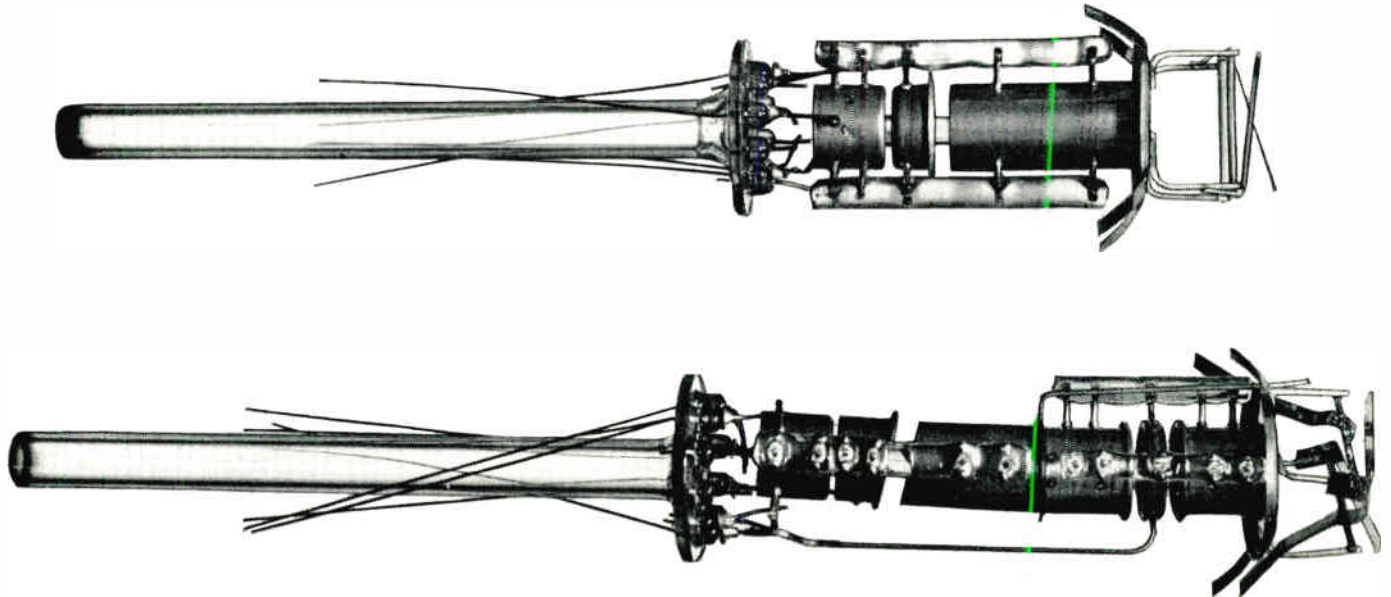

Fig. 1. Two types of electron guns used in TV picture tubes.
In the same way that the picture tube is the heart of the TV receiver, the heart of the picture tube is the gun structures shown in Figs. 1 and 2. These three types of guns are currently used in the manufacture of General Electric picture tubes. The straight gun type shown at the top of Fig. 1 is used in some of the smaller size aluminized picture tubes such as the 5TP4, 10FP4-A and 12KP4-A. A straight gun can be recognized by the straight adjacent edges of the number two grid cup and the HV anode cylinder. Tubes which use a straight gun do not require an ion-trap magnet.
The electron gun shown at the bottom of Fig. 1 is also a bent gun type but in addition, it has a focusing electrode which eliminates the use of an external focus coil or magnet. This type gun is used in electrostatic focus type tubes such as the 17EP4-A and the 21EP4-A. As previously mentioned all picture tubes which have a bent gun require an ion-trap magnet. All three types of guns shown in Figs. 1 and 2 contain the following parts each of which will be discussed in detail: (1) heater (2) cathode assembly (3) grid No. 1 (4) accelerating anode or grid No. 2 (5) HV anode.